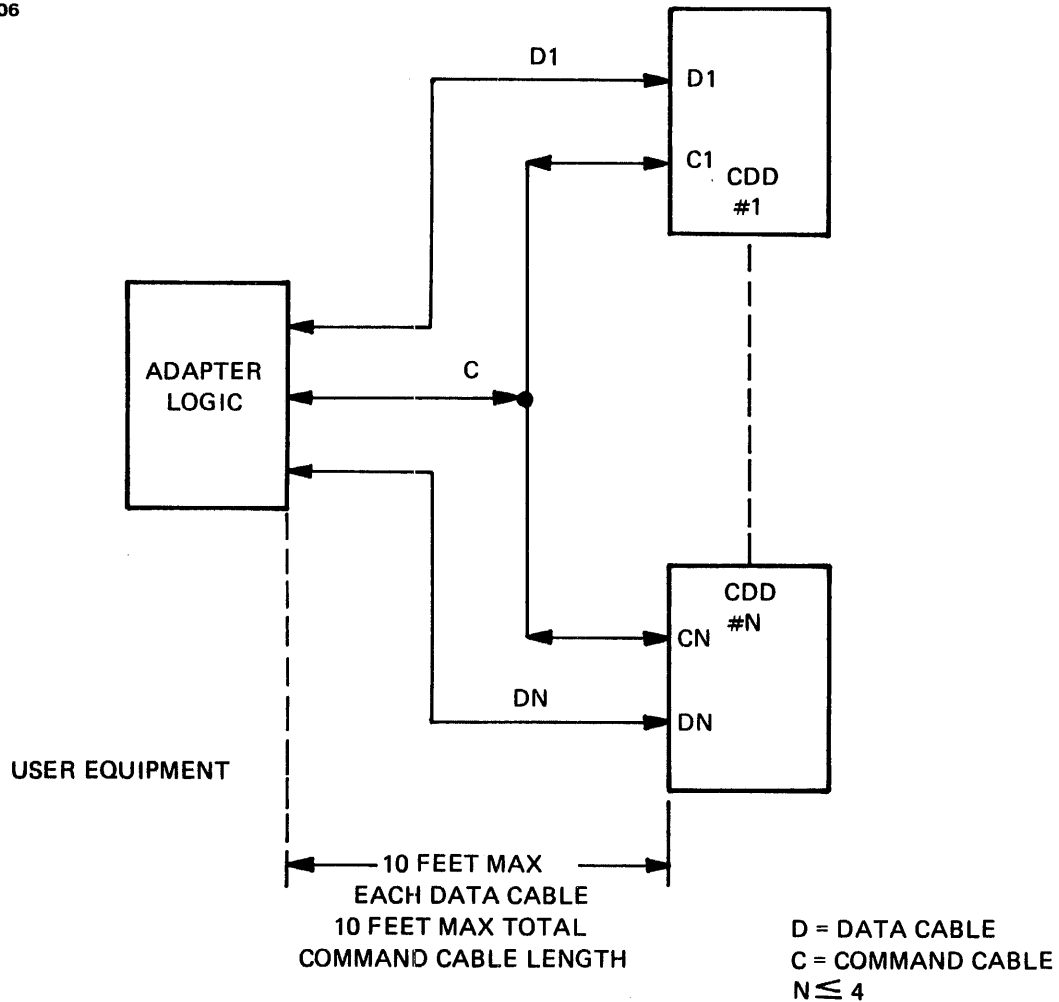

Figure H-21 CDD50 Interface Cable
The command/data physical interface consists of a 40-pin command (C) cable and a 26-pin data (D) cable. The command cable can be daisy-chained. However, since there is only one command I/O connector provided on the CDD50 Base PWA, the user must provide the daisy-chain facilities. A maximum of four CDD50s can be daisy-chained. The data cable must be radially connected. The maximum cumulative daisy-chained cable length is 10 feet. The maximum radial cable length is 10 feet. See Figure H-21.